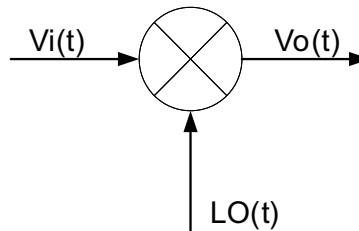

Figure 78. Block Diagram of Mixer Operation
The CW mixer in the AFE5809 is passive and switch based; passive mixer adds less noise than active mixers. It achieves good performance at low power. Figure 78 and the equations describe the principles of mixer operation, where $V_i(t)$, $V_o(t)$ and $LO(t)$ are input, output and local oscillator (LO) signals for a mixer respectively. The $LO(t)$ is square-wave based and includes odd harmonic components as shown in Equation 4: